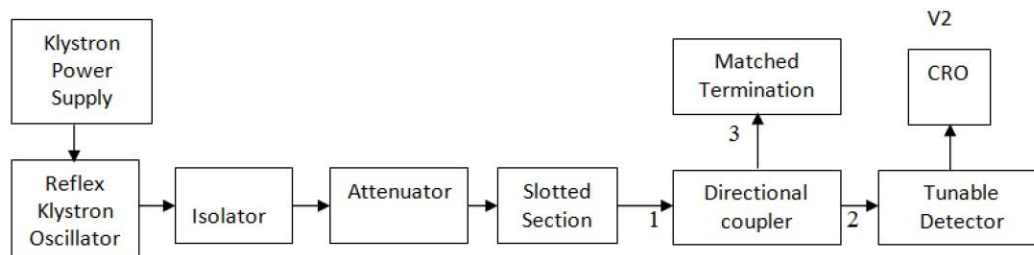

Figure 4.1: Measurement of directivity
- Calculate the directivity of the three directional couplers as shown in the figure 4.1.